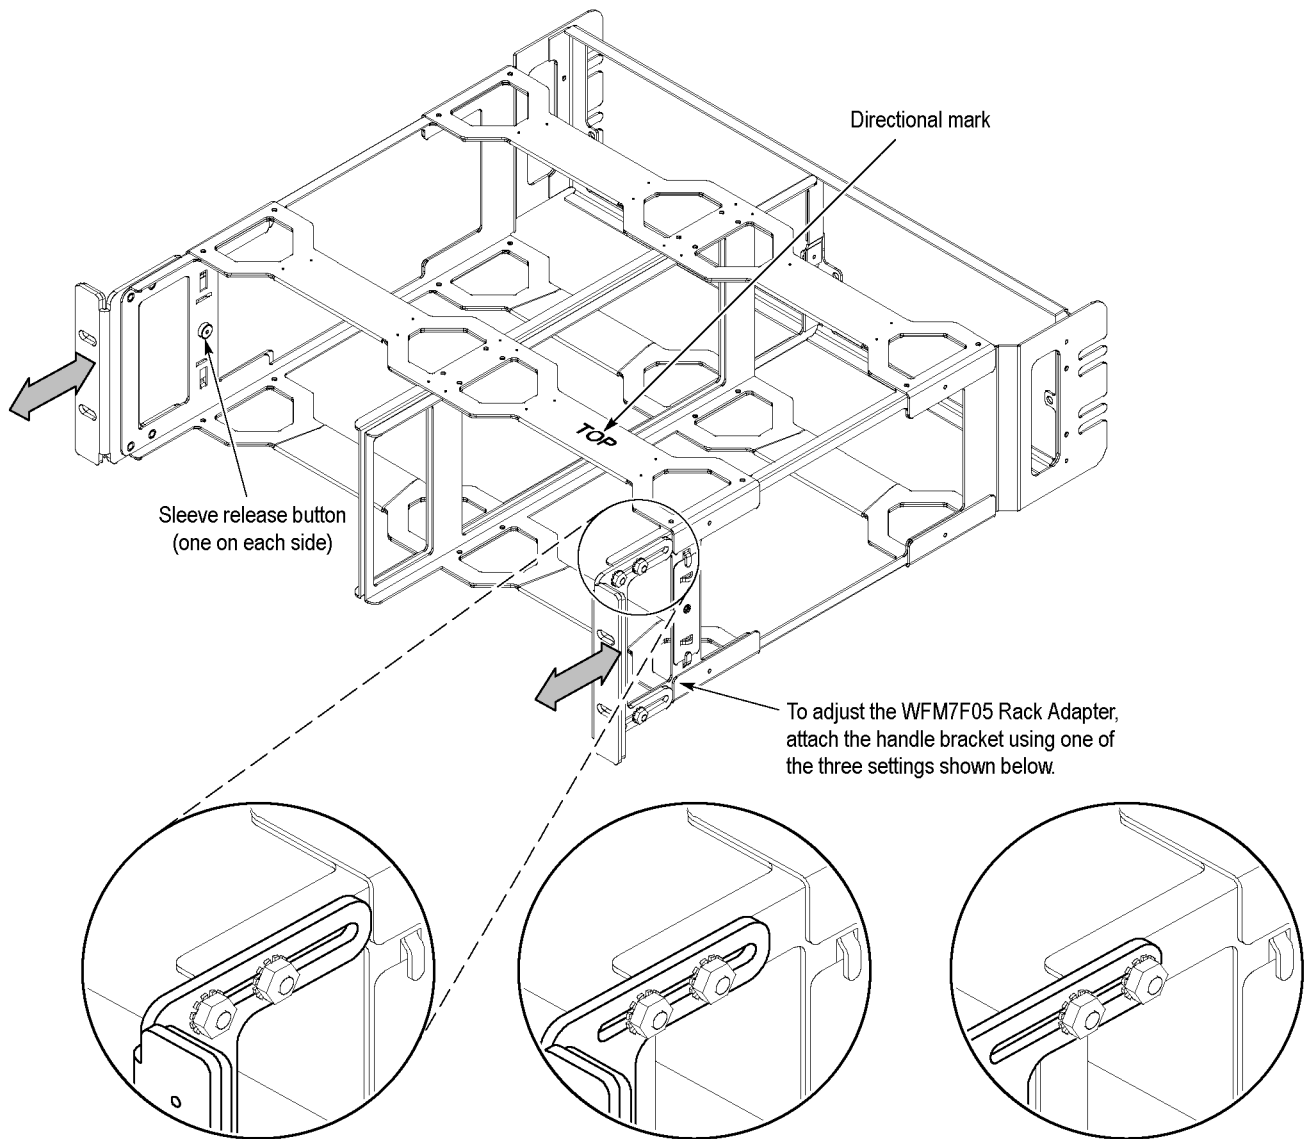

Figure 8: Adjusting the position of the handles
The rack adapter is marked with the word "TOP" to indicate which side of the adapter should face up. (See Figure 8.)
1. If the two sleeves are installed in the rack adapter, remove them as follows: locate the button on the inside front of the rack adapter and hold it in while pulling the sleeve forward and out of the adapter. (See Figure 8.)
2. If desired, you can adjust the position of the handle brackets to mount the adapter flush with other equipment in the rack. To do this, loosen the nuts that attach the handle brackets to the rack adapter, adjust the position of the handle brackets as desired, and then tighten the nuts securely. (See Figure 8.)